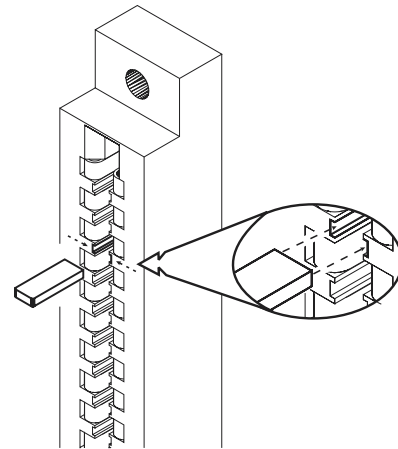

Figure 2
7. Place the user key from the installation kit in the OMM-1/-2 card edge connector for the OCC-1 (See Figure 2). See Figure 3 for the exact location of the key for this module. This prevents installation of any other card type in the OCC-1 slot.